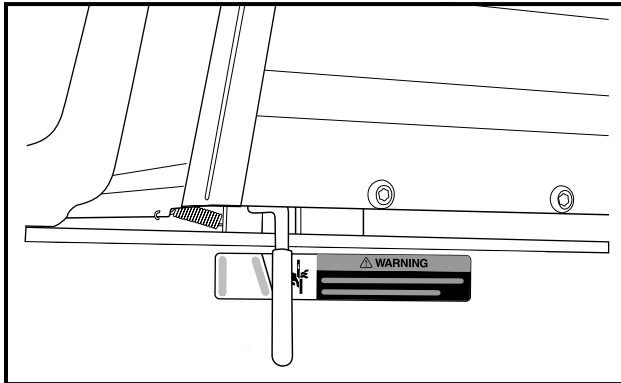
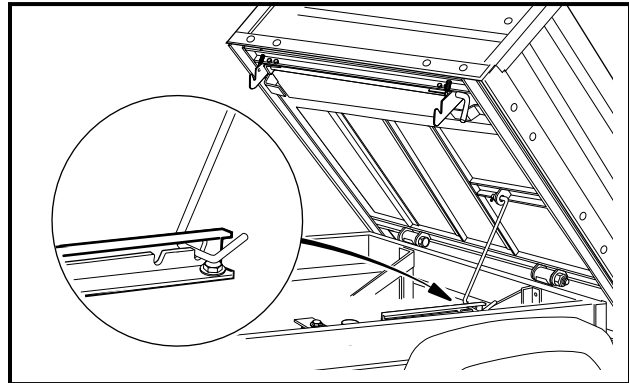

Figure 10 Pioneer 1200 Bed Latch
Figure 11 Pioneer 1200 Prop Rod
The bed latch (**Figure 10**) has an automatically engaging prop rod and prop rod track (**Figure 11**) as standard features. To lift the bed, pull the bed latch handle toward the rear of the vehicle and lift the bed. The prop rod will come to rest in one of the notches in the prop rod track. To close the bed, lift the bed so that the prop rod is no longer supported in one of the track notches. Push the prop rod toward the front of the vehicle to free it from the track notch and gently lower the bed. **DO NOT** drop the bed. See following **DANGER**, **WARNING**, and **NOTE**.
**NOTE:** The Pioneer 1200 vehicle is equipped with an automatically engaging prop rod (**Figure 11**), unless equipped with the electric bed lift accessory.